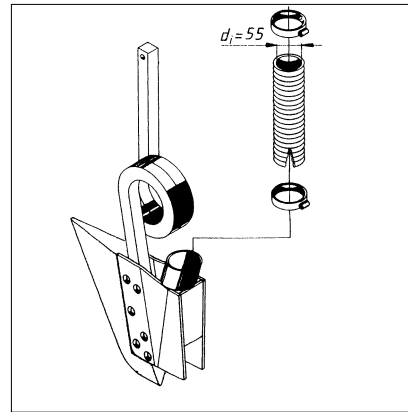

Fig. 10-7
2. Push the ends of the hoses onto the distributor and the fertiliser coulters and secure by means of hose clips. If the outer diameter of the tube on the fertiliser coulter is larger than the inner diameter of the hose, cut a V-shaped notch into the end of the hose and then push the hose onto the tube and secure it by means of a hose clip (see fig. 10-7).